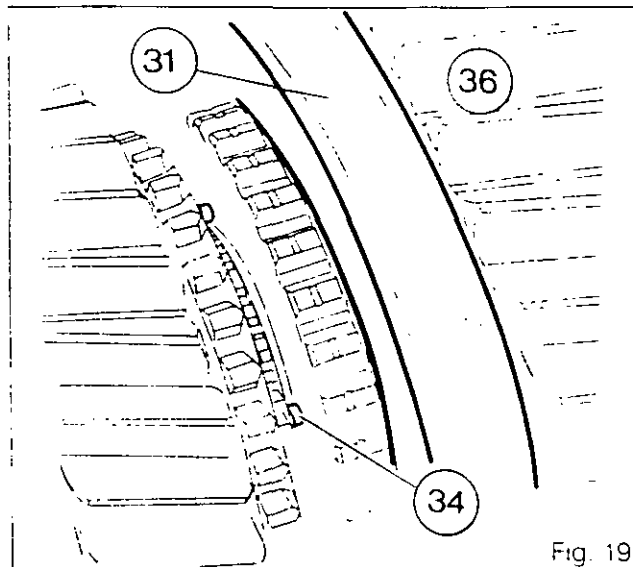

Fig. 19
- 41. Engage the High/Low range coupler (31) (Fig. 19) on the Low range pinion (36)
- 42. Withdraw the shaft (44) rearwards.
- 43. Remove the circlip (34) using tool MF 460 and discard it (Fig. 19 and 20).
- 45. Through the inspection panel in the selector rail mechanism cover, withdraw: the hub (33) and its coupler, the gear (29) (3rd gear 4 x 2 gearbox and 4th gear 4 x 4 gearbox), the synchromesh cup (25), the two thrust washers (32)-(27) and the Low range gear (36).
**Note:** Keep the synchro cup (25) with the pinion (29) for possible re-use.